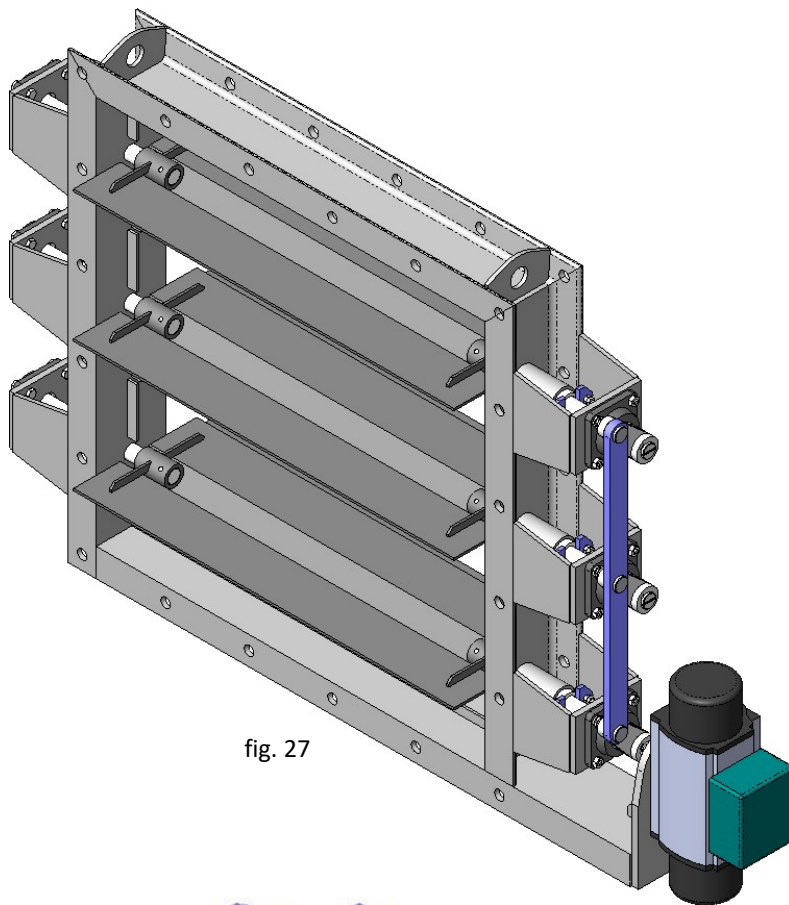

fig. 27
- Single acting pneumatic cylinder (fig. 27) *